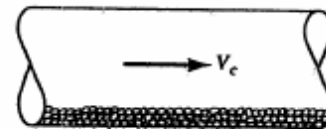

FIGURE P7.47
7.47 A thin layer of spherical particles rests on the bottom of a horizontal tube as shown in Fig. P7.47. When an incompressible fluid flows through the tube, it is observed that at some critical velocity the particles will rise and be transported along the tube. A model is to be used to determine this critical velocity. Assume the critical velocity, V_c to be a function of the pipe diameter, D , particle diameter, d , the fluid density, ρ , and viscosity, μ , the density of the particles, ρ_p , and the acceleration of gravity, g . (a) Determine the similarity requirements for the model, and the relationship between the critical velocity for model and prototype (the prediction equation). (b) For a length scale of $\frac{1}{2}$ and a fluid density scale of 1.0, what will be the critical velocity scale (assuming all similarity requirements are satisfied)?